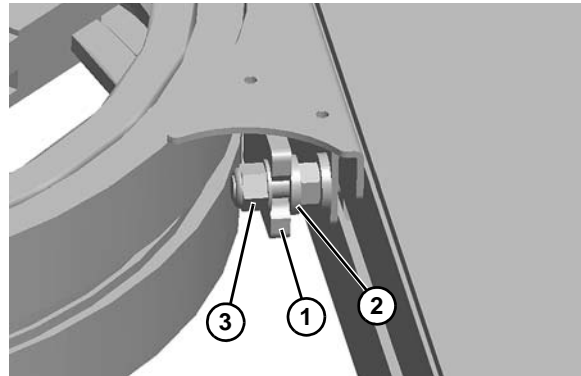

Figure 49
4. Connect conveyor sections together. Make sure that the tie bar (Figure 49, item 1) is positioned between washers (Figure 49, item 2) and hex nuts (Figure 49, item 3) on both sides.
5. Tighten hex nuts (Figure 49, item 3).